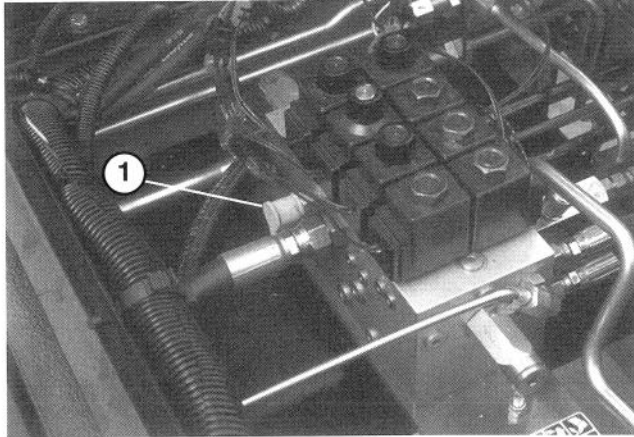

Figure 54
HYDRAULIC SYSTEM TEST PORTS (Fig. 54–56)
1. Test Port #1 (Fig. 54) is used to assist in trouble shooting the hydraulic circuit for the front cutting units and lift cylinders.